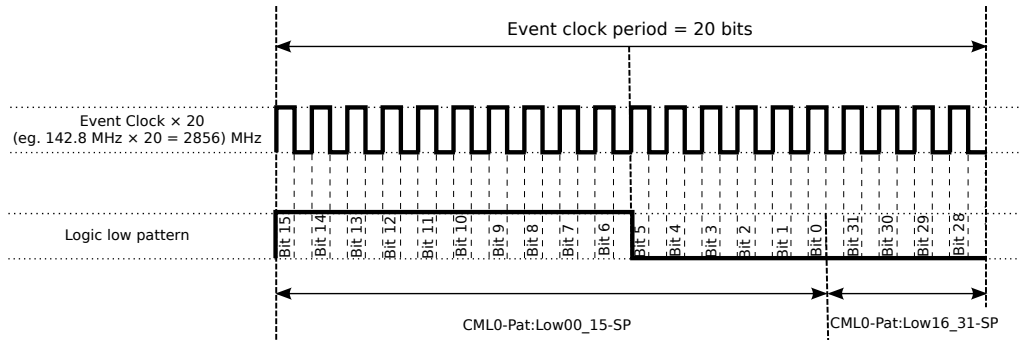

Figure 4: Generate the event clock
Signals with frequency greater or equal of the event clock frequency can only be generated using the CML outputs of the EVR. More about the operation of the CML outputs and their modes is available in the EVR manual [2]. Note, that not all event receiver form factors have CML outputs. This tutorial thus focuses on the EVR-VME-230RF form factor, which has outputs `FrontOut4` (CML0), `FrontOut5` (CML1) and `FrontOut6` (CML2) capable of CML output. It demonstrates how to configure CML0 output (corresponds to `FrontOut4` output) to generate a clock signal, that has the same phase and frequency as the event clock. To achieve this, the CML0 output source is set to `logic low`, which causes the logic low pattern of the CML pulse mode to be continuously outputted. The configurable pattern is 20 bits long and is sent out with a bit rate of 20 times the event clock rate, as seen in Figure 4.
- `CML0-Pat:Low00_15-SP=0xFFC0`: Set logic low pattern bits 0-15. The Figure 4 shows that the bits 15-0 must be set as follows: 1111 1111
- CML0-Pat:Low16_31-SP=0: Set signal low pattern bits 16-31, as seen in Figure 4. Each bit represents 1/20 of the event clock period. Note, that only bits 31-28 (top 4 bits) can be used.